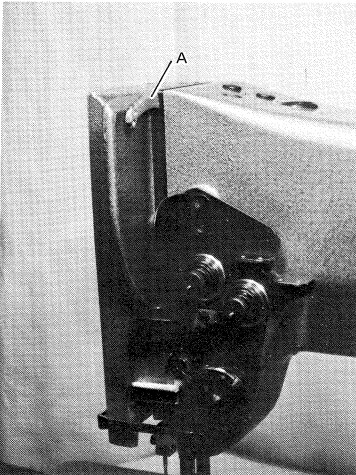

Fig. 35
A. When the connection belt removed from the pulley for adjusting and or replacing purposes of the parts, it should be replaced by the processes, as followings: (Figs. 35 & 36)
1. Turn the machine pulley toward you so that placed the take-up lever (A) at the highest position.
2. Turn the hook shaft with the fingers until the arrow mark on the hook driving shaft bushing collar (2) and the red point mark on the hook driving shaft bushing (1) are directly in line. Then replace the belt over the the upper and lower pulley.